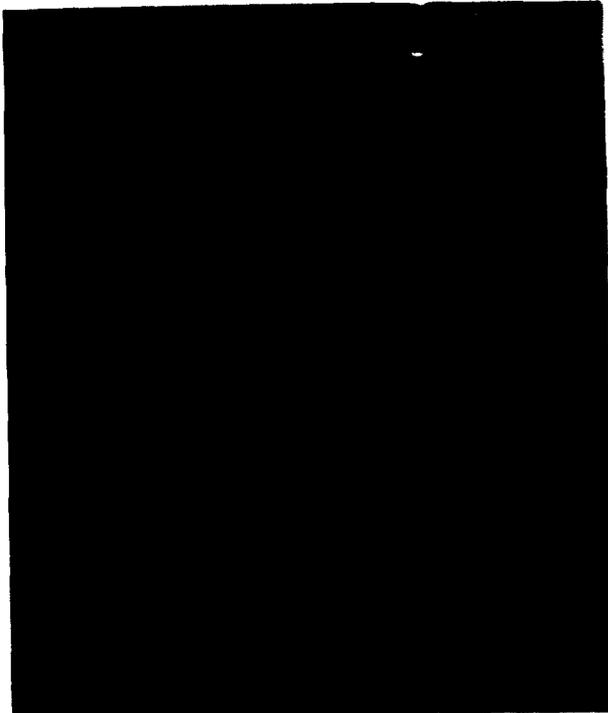

Figure 2-19. Telescope mount adjusting screws.
(3) While sighting through XM128 telescope, adjust the screws in telescope base (fig. 2-19) until the horizontal cross-hair is on the 9½-inch tape